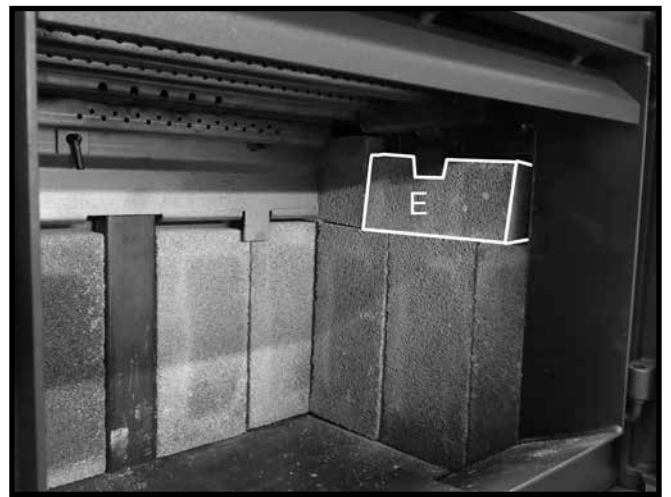

Figure 24: Final side wall firebrick in position.
4. Slide an "E" firebrick under the side wall brick rail tab and rest on top of the three previously placed side wall firebricks (Figure 24). Repeat steps 2-4 on the other side (Figure 24).